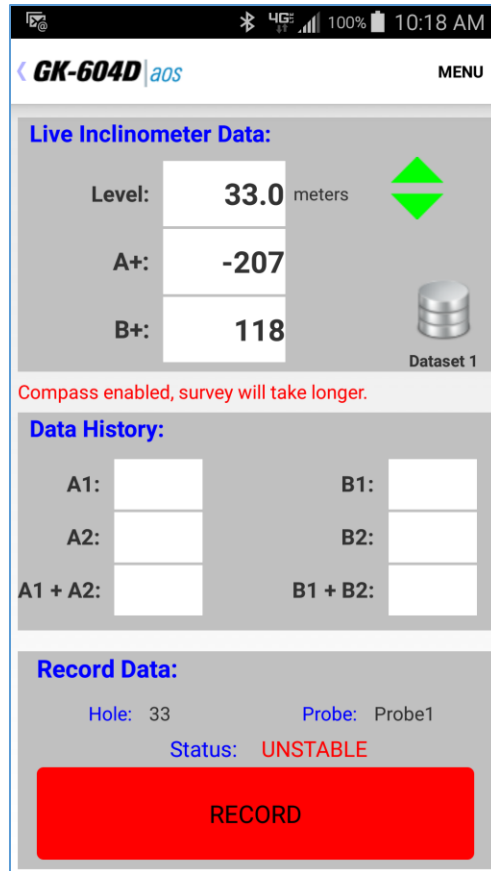

Figure 76 – Compass Enable Message
6. If the GK-604D | aos has detected an inclinometer with the integral compass, tapping the "MENU" option will display the menu shown in Figure 34. Tapping the menu option, "Enable Compass Survey", will display the message shown (in red) in Figure 76 for approximately 5 seconds and will enable the compass survey option. This message informs the user that, with the compass enabled, an inclinometer survey will take approximately 30% longer.